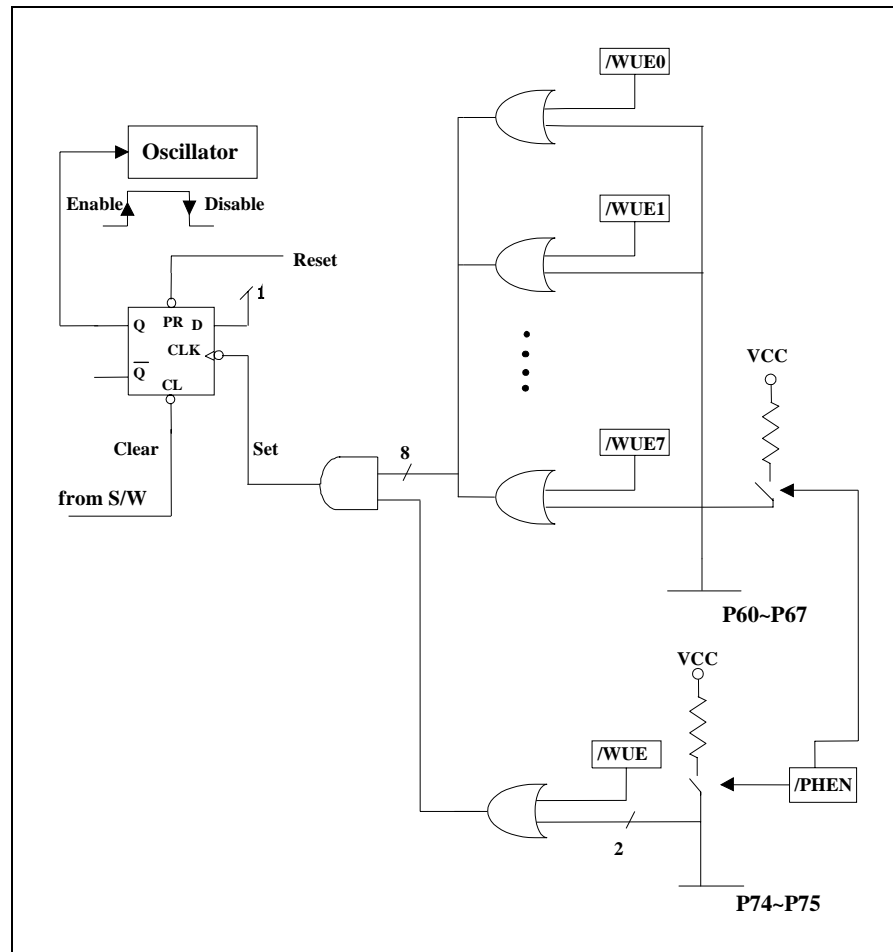

Figure 4-4 Block Diagram Showing Sleep Mode and Wake-up Circuits on I/O Ports
**Bit 4 (SLPC):** This bit is set by hardware at the low level trigger of the wake-up signal and is cleared by software. SLPC is used to control the oscillator operation. The oscillator is disabled (oscillator is stopped, and the controller enters into Sleep 2 mode) on the high-to-low transition and is enabled (controller is awakened from Sleep 2 mode) on the low-to-high transition. In order to ensure a stable oscillator output, once the oscillator is enabled again, there should be a delay for approximately 18ms1 (oscillator start-up timer (OST)) before the next instruction of the program is executed. The OST is always activated by a wake-up event from Sleep mode regardless whether the Code Option bit ENWDT status is "0" or otherwise. After waking up, the WDT is enabled if the Code Option ENWDT is "1". The block diagram of Sleep 2 mode and wake-up invoked by an input trigger is depicted in the following figure (Figure 4-4). The SLPC bit can be read and written to.
- 1) Any of the wake-up pins is “0” as illustrated in Figure 4-4 under Section 4.2.5. Upon waking, the controller will continue to execute the next instruction. In this case, before entering Sleep 2 Mode, the wake-up function of the trigger sources (P60~P67 and P74~P75) should be defined (i.e., as input pin) and enabled (i.e., pull-high and wake-up controlled). It should be noted that after waking up, the WDT will be enabled regardless what the Code Option bit ENWDT status is (“0” or “1”). The WDT operation (to be enabled or disabled) should be properly defined in software after waking up. See the Sleep 2 mode details operation in Section 4.5.1.1 below.